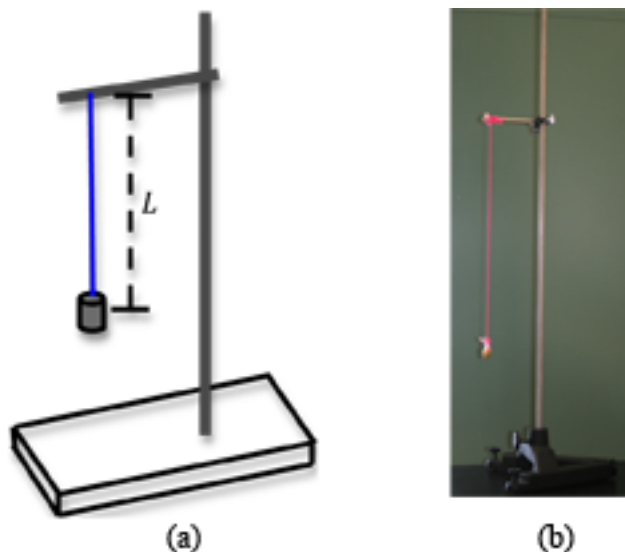

Figure 1: A simple pendulum
A simple pendulum7 consists of a mass or pendulum bob tied to a string. The length of the pendulum is defined as the distance from the point of suspension of the string to the center of the pendulum bob. See Fig. 1.
- 2 Using a meter stick, adjust the length  $L$  of your pendulum to be between 60 cm and 100 cm. See Fig. 1.